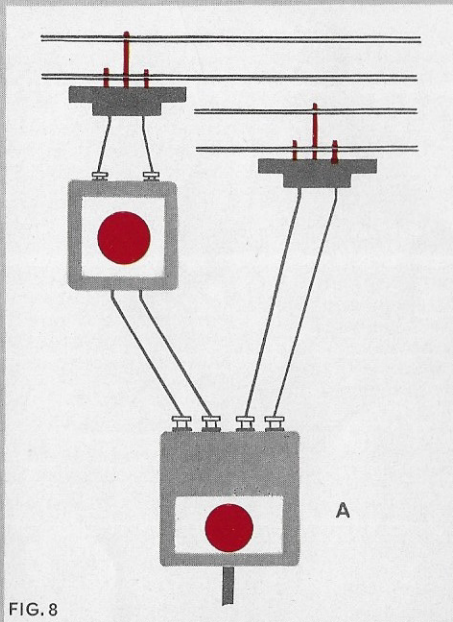

FIG. 8
important, is shown on page 11. For two train operation (Fig. 8) a second controller is required taking its power from an uncontrolled 12 volt D.C. tapping on a transformer/controller (A).